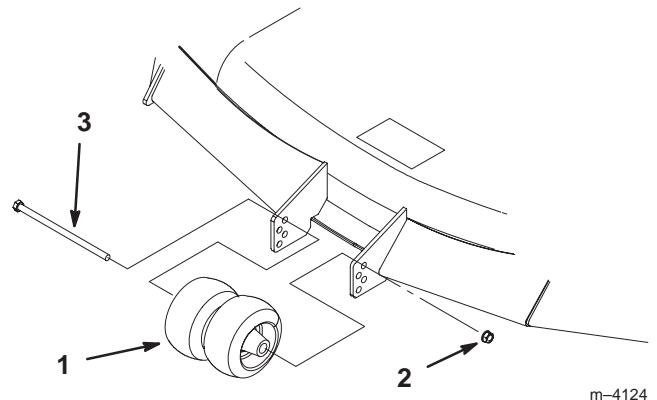

Figure 23
2. After adjusting the height-of-cut, remove the bolt and nut (Fig. 23).
3. Select a hole so that the gage wheel is positioned to the nearest corresponding height-of-cut desired (Fig. 23).
4. Reinstall the bolt, center rollers, and nut (Fig. 23).